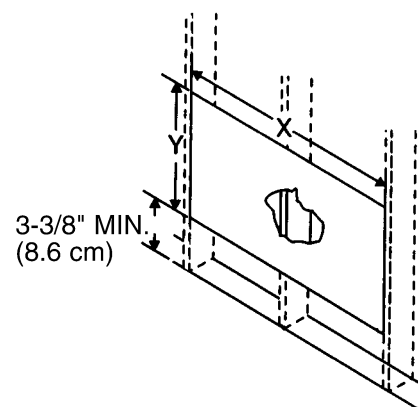

FIGURE 20 — WALL INSTALLATION LOCATION
5. Cut or knock out a hole on each side of the center stud. See Fig. 20.
6. Measure between the inside edges of every other stud as shown in Fig. 20.